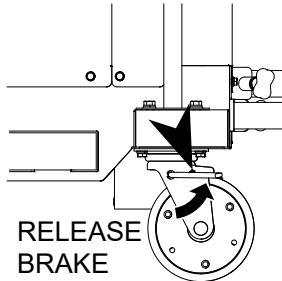

Figure 6. Releasing Caster Brakes
2. To release, push up both sides of the caster brakes (Figure 6).